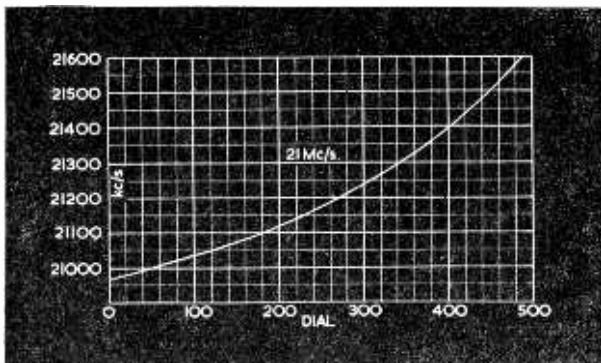

Fig. 5. This graph may be cut out and inserted behind coil box panel in place of existing one
A source of 21Mc/s signal is required either from a transmitter or signal generator, preferably the latter, which should be set to 21,000 kc/s and the HRO dial to 50. C1 in the oscillator section (T8 in HRO Manual) should be adjusted until the signal is heard. Turn the receiver dial to 425, set the signal generator to 21,450 kc/s and adjust C2 (T7) until the signal is heard. By adjustment of C1 bandsetting and C2 band spreading it should be possible to spread the band as shown in Fig. 5, which is the graph of the coil modified by G2HKU and is reproduced here in a size suitable for insertion on the front of the coil box.
**The "Jupiter" Stereo Pre-amplifier**, p. 884, July 1958.—In Fig. 5, the sliding contact of  $S_{1b}$  should be shown making with that contact connected to  $R_9$ , and the designations "Radio" and "Tape" should be reversed.